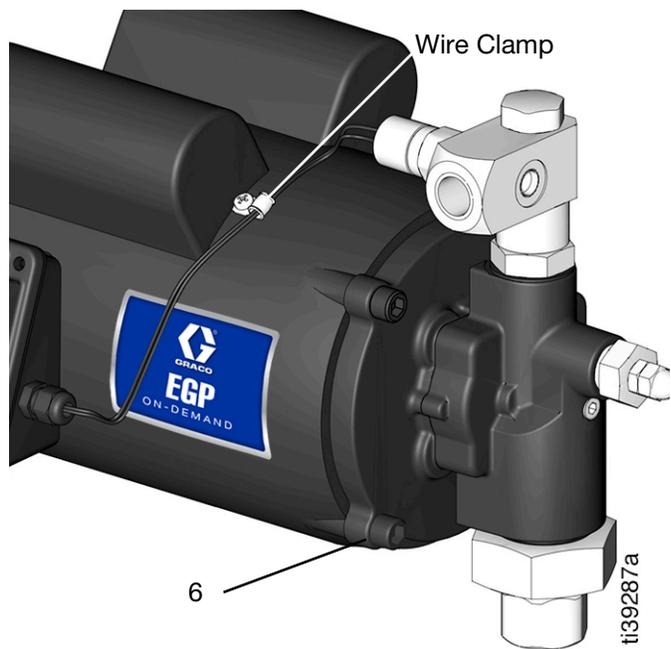

FIG. 24
12. Pull the pressure switch wire out of the wire clamp (FIG. 24).
13. Remove the four Allen screws (6) using a 5/16 in. (8 mm) hex wrench (FIG. 24).
6. Place and tighten the four Allen screws (6) using an 5/16 in. (8 mm) hex wrench (Torque 20 ft-lbs, 27.1 N•m) (see FIG. 24).
7. Push the pressure switch wire into the wire clamp and into the terminal box through the strain relief (see FIG. 24).